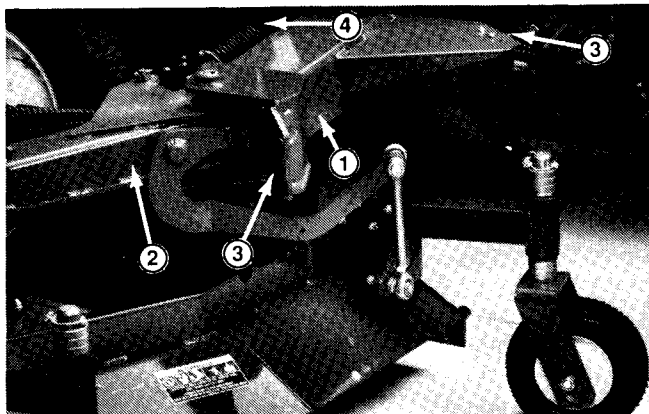

Figure 12
1. Raise outboard cutting unit so inner lift arm rests on rubber pad (Fig. 12).
2. Loosen jam nuts and adjust tie rod (Fig. 12a) until outer lift arm, contacts rubber pad (Fig. 12). Tie rod assembly must be rotated so that rollers face hydraulic hoses when lift arms are raised. Tighten jam nuts.